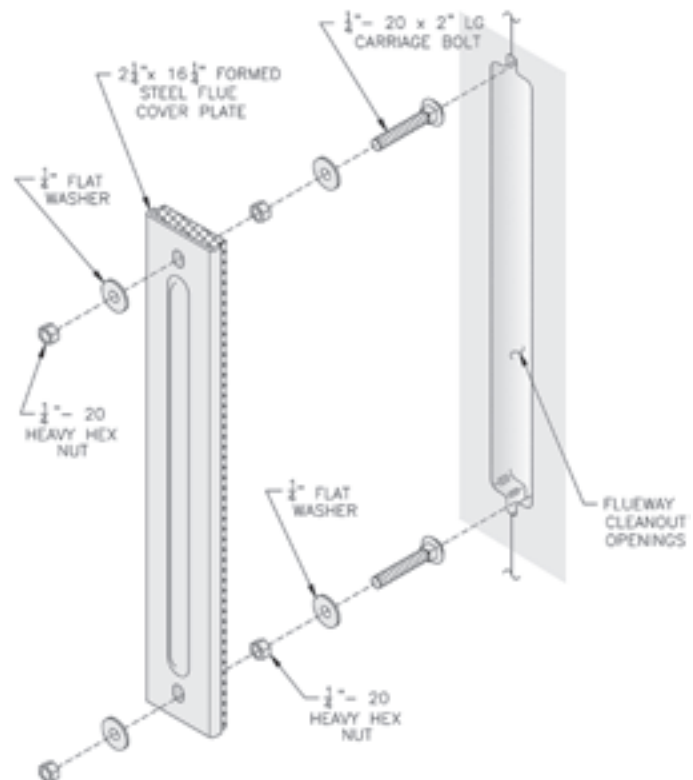

Figure 19: Flue Cover Plate Attachment
B. INSTALL FLUE COVER PLATES over cleanout openings on left side of boiler as shown in Figure 19. See **Important Product Safety Information on Page 21 of this manual, regarding refractory ceramic fiber product warning.**
2. Remove insulation from two (2) 3/8" diameter holes in flue cover plates using a 3/8" drill bit. Rotate bit through insulation by hand.